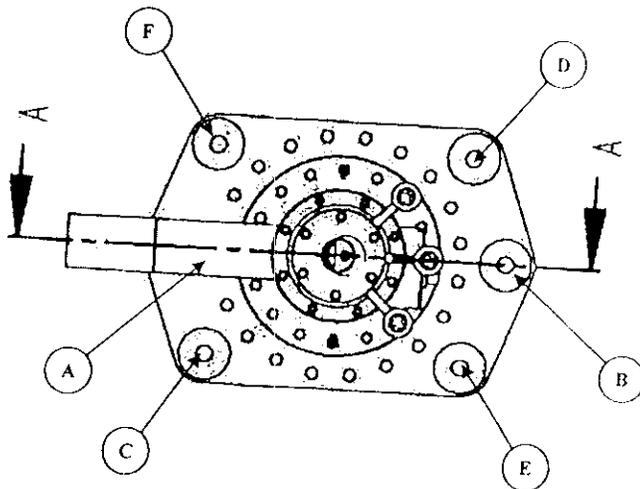

Figure 1.32.2 The specified sequence for tightening the Belleville washer assemblies.
1.29.2 Tighten the 6 loading nuts finger-tight. With adjustable parallels, measure and record the gap 'y' indicated in Figure 1.31a between Item 5 (Belleville washer holder upper half) and the power lead top flange at the 6 locations specified in Figure 1.32.2. Units are mm.
- 1.29.4 Using the sequence A through F in Figure 1.32.2, sequentially tighten the loading nuts ¼ turn until the total compression is 1.8 mm at each of the six locations. As each loading nut is tightened ¼ turn, check off the appropriate line.